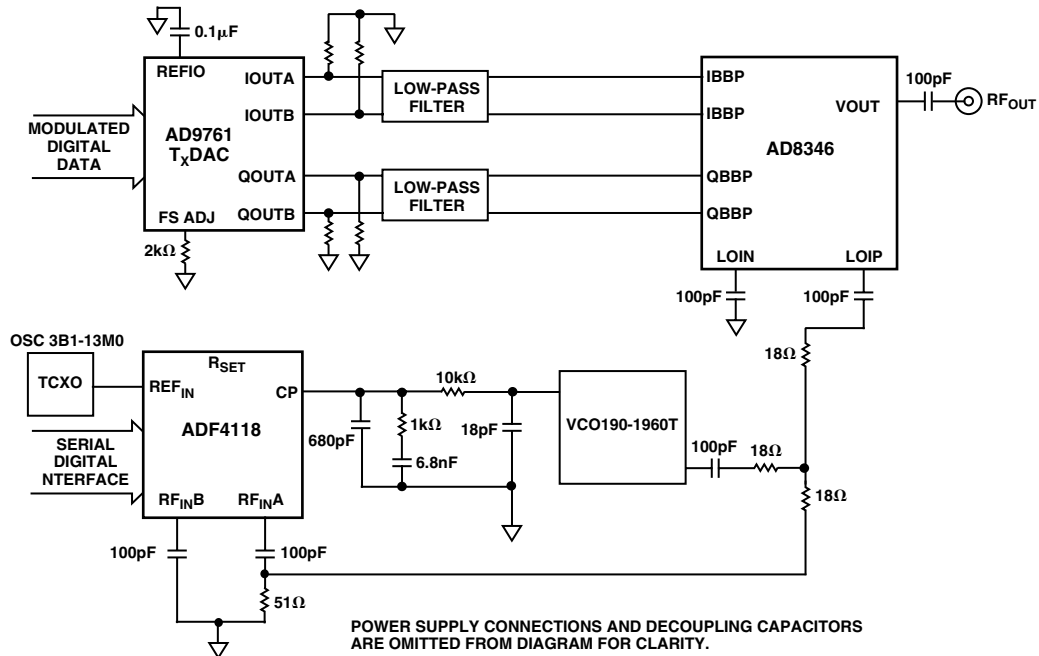

Figure 28. Direct Conversion Transmitter Solution
In some applications a direct conversion architecture can be used in base station transmitters. Figure 28 shows the combination available from ADI to implement this solution.
The Local Oscillator (LO) is implemented using the ADF4117/ADF4118. In this case, the OSC 3B1-13M0 provides the stable 13 MHz reference frequency. The system is designed for a 200 kHz channel spacing and an output center frequency of 1960 MHz. The target application is a WCDMA base station transmitter. Typical phase noise performance from this LO is $-85\ \text{dBc/Hz}$ at a 1 kHz offset. The LO port of the AD8346 is driven in single-ended fashion. LOIN is ac-coupled to ground with the 100 pF capacitor and LOIP is driven through the ac-coupling capacitor from a $50\ \Omega$ source. An LO drive level of between $-6\ \text{dBm}$ and $-12\ \text{dBm}$ is required. The circuit of Figure 28 gives a typical level of $-8\ \text{dBm}$.
The RF output is designed to drive a $50\ \Omega$ load but must be ac-coupled as shown in Figure 28. If the I and Q inputs are driven in quadrature by 2 V p-p signals, the resulting output power will be around $-10\ \text{dBm}$.